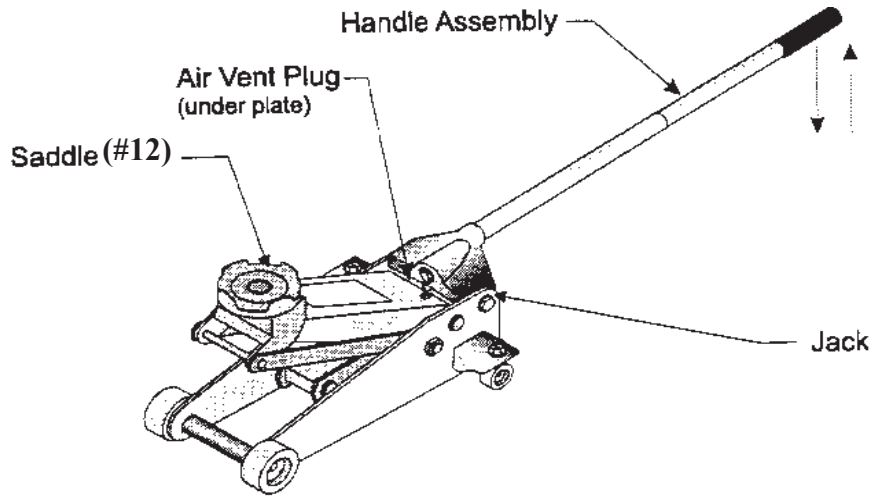

Figure 5 -- Bleeding the Jack
Step 4: Hold the SADDLE down and pump the Handle Assembly rapidly several times as shown in Figure 5.